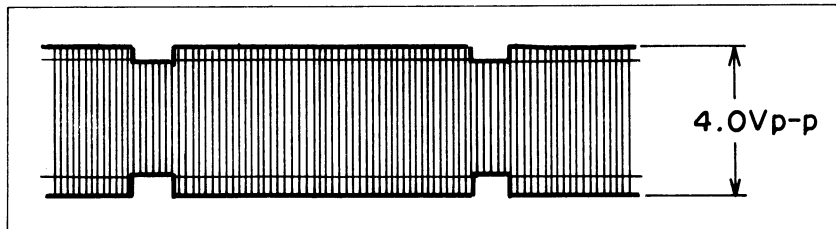

Fig. 5-72. FM Rec waveform
- Set the VTR at the recording mode and adjust R24 (Y Rec Level) until the output becomes 4.0 volts p-p, as shown in Fig. 5-72.